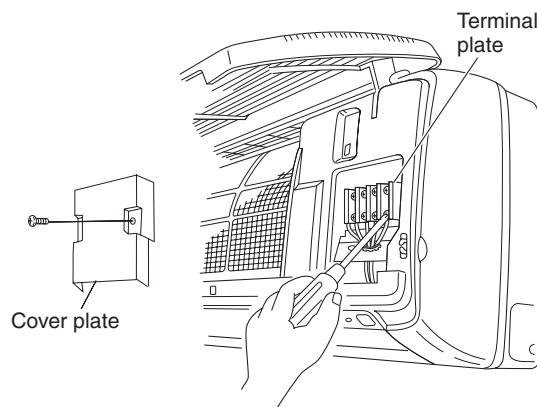

Fig. 3-33a
- (2) Route the inter-unit wiring from the back of the indoor unit and pull it toward the front for connection. (Figs. 3-33a and 3-33b)
- (3) Connect the inter-unit wiring to the corresponding terminals on the terminal plate (Figs. 3-33a and 3-33b) while referring to the wiring diagram.
- (4) Be sure to secure the wiring with the provided clamp.
- (1) Using a Phillips head screwdriver, remove the screw on the cover plate. (Figs. 3-33a and 3-33b)
- (2) Remove the cover plate.